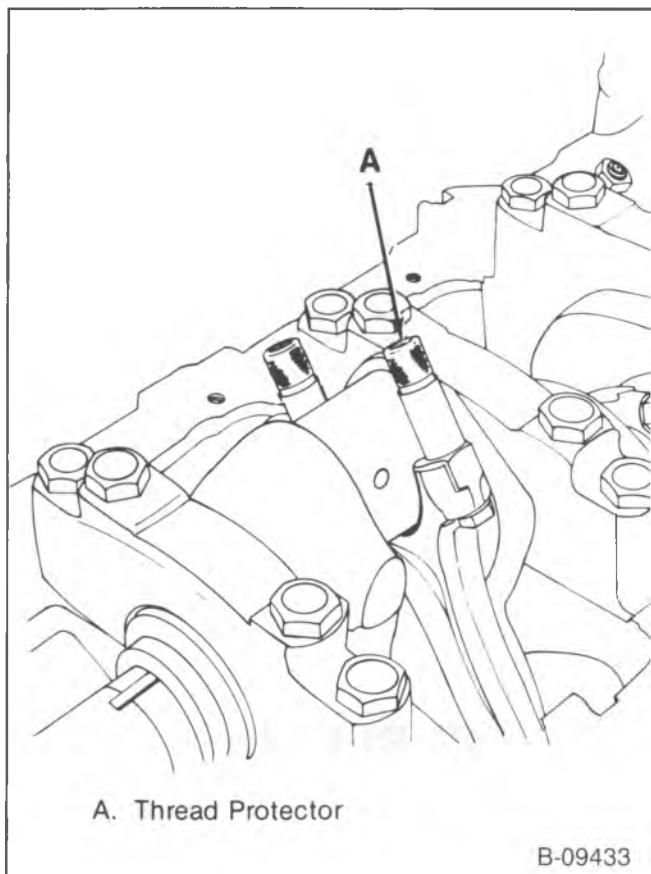

Figure 15—Replacing the Piston and Connecting Rod (Typical)
3. Connecting rod and piston (figure 15).